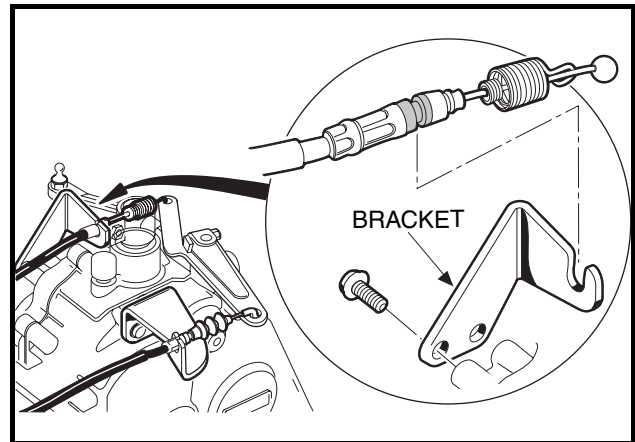

Figure 16-37 Accelerator Cable Bracket
7. Install the accelerator cable bracket on transaxle case. Tighten the mounting screws to 134 in-lb (15.1 N·m) (**Figure 16-37, Page 16-16**).